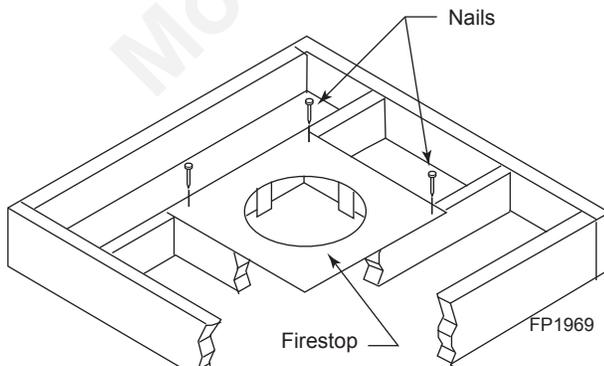

Figure 34 -
1. Cut a 9½" (241 mm) square hole in the ceiling using the locating hole as a center point. The opening should be framed to 9½" x 9½" (241 x 241 mm) inside dimensions as shown in Figure 34 using framing lumber the same size as the ceiling joist. If the area above the ceiling is an insulated ceiling or a room, nail firestop from the top side. This prevents loose insulation from falling into the required clearance space. Figure 34. Otherwise, install firestop below the framed hole.